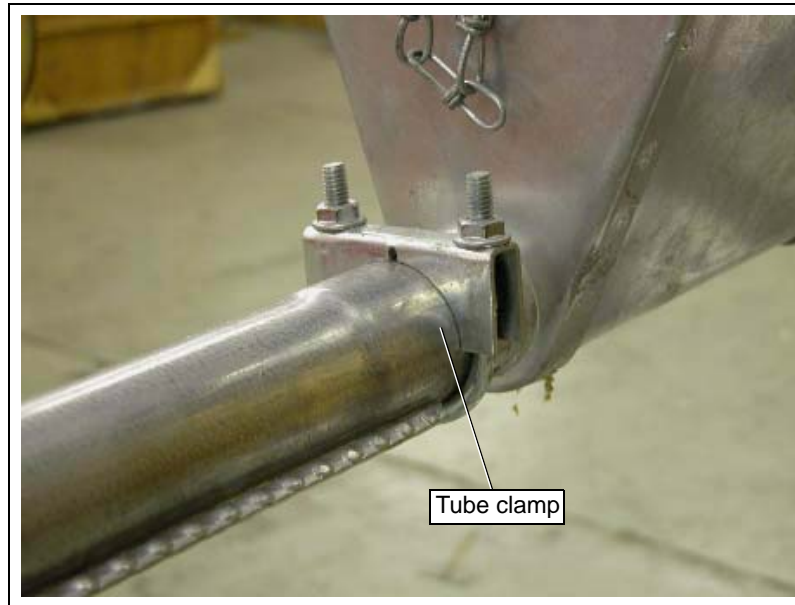

Figure 7Y
4. Secure the auger tubes together with the tube clamps as shown in Figure 7Y.